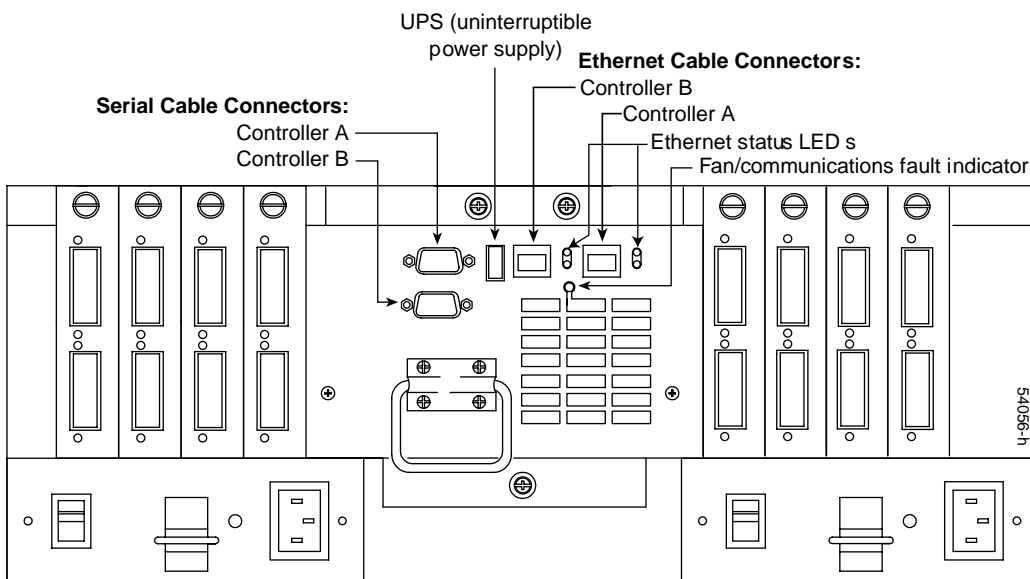

Figure 4-9 Fan/Communications Interface Cables and Fault Indicator
3. Disconnect all interface cables (RS-232 and Ethernet) from the failed fan/communications canister (see Figure 4-9).
6. Check the fan/communications fault indicator (Figure 4-9 on page 58). The amber fault indicator should be off. Troubleshoot the indicator as follows: